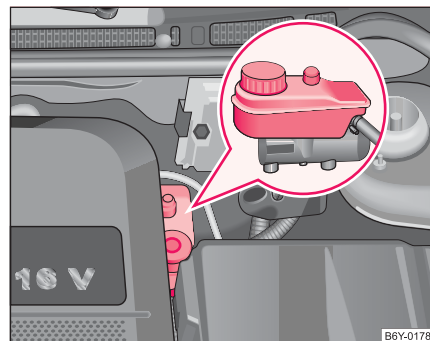

Fig. 130 Engine compartment: Brake fluid reservoir
- Inspect the brake fluid level in the reservoir ⇒ page 179, fig. 130. The level must be between the “MIN” and “MAX” markings.